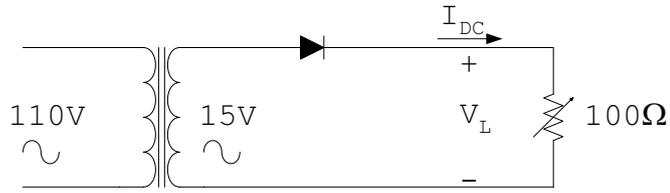

Fig. 1
- For each of the circuits in Figs 1, 2, and 3 adjust the load resistor to get $I_{\text{DC}} = 50$ mA. observe the output across the load on the oscilloscope and determine each of the quantities 1 to 4 mentioned in the Theory section above.
- For each of the circuits in Figs 1, 2, and 3, change the DC current from 50 mA to 0 by opening the load connection, and determine the percent regulation.
For the circuits shown in Figs. 1, 2, and 3: